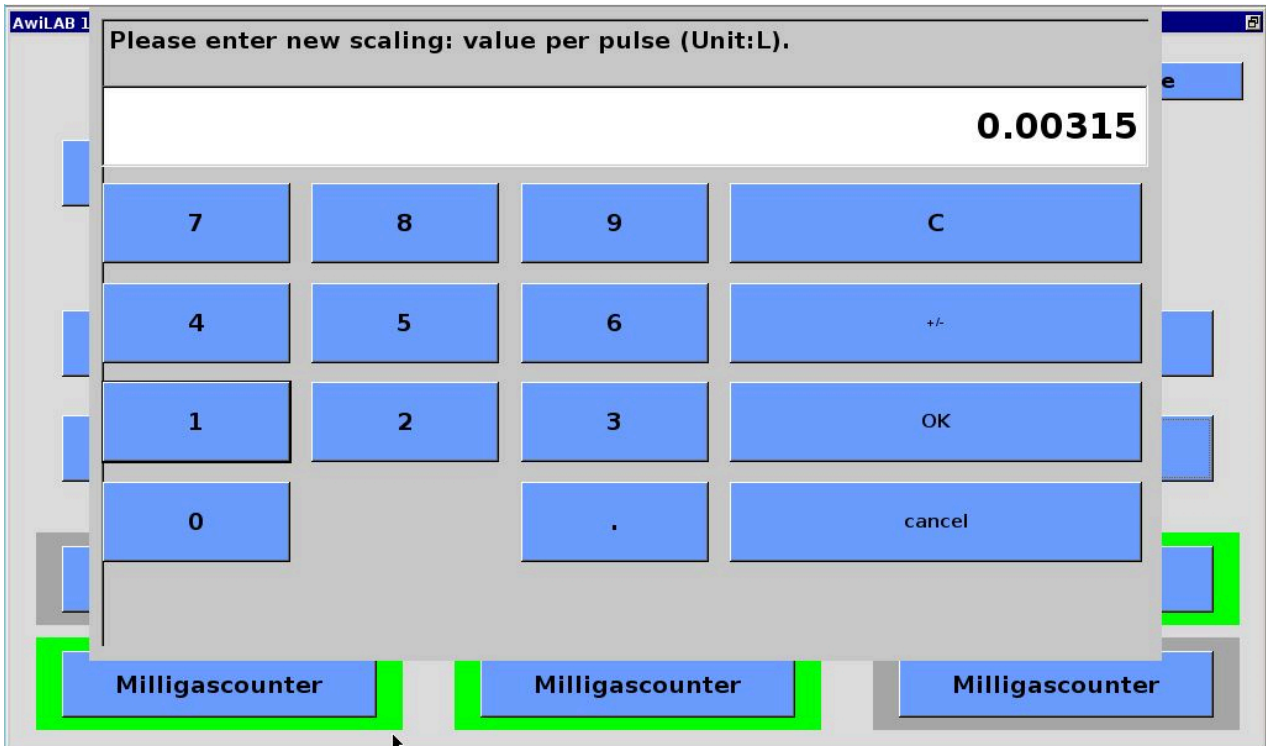

Figure 25: Scaling Milligas Counter / Drum Gas Meter
3. The field Factor shows the amount in liters that is counted by the milligas counter / drum gas meter per pulse. This factor must always be adjusted before putting the meter into operation (Fig. 25 'Factor'). In the case of the milligas counter, this factor is indicated on the type plate as measuring chamber volume. In drum gas meters, the amounts per revolution and the pulses per revolution are displayed. These must be converted and entered accordingly (example: 0.5 liters/revolution and 200 pulses/revolution corresponds to 0.0025 liters as input value)